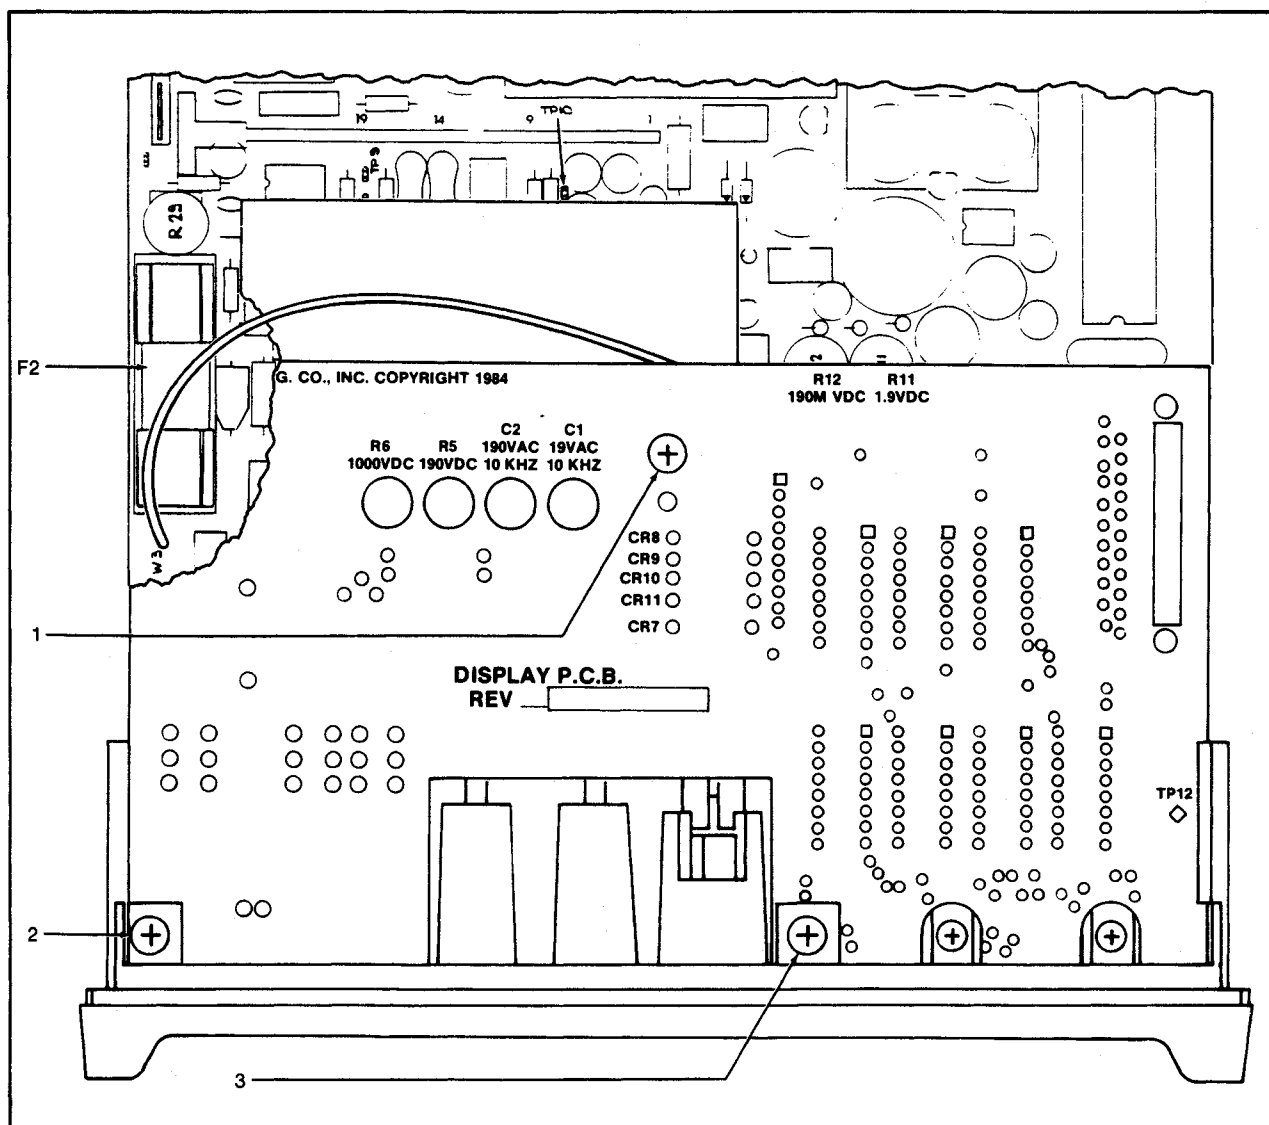

Figure 4-1. Display PCB Access
2. Refer to Figure 4-1. Turn the instrument over and remove the indicated screws.
- Using a wide flat-blade screwdriver, pry the fuse out from the fuse holder. (Refer to Figure 4-1 for the location of F2.)